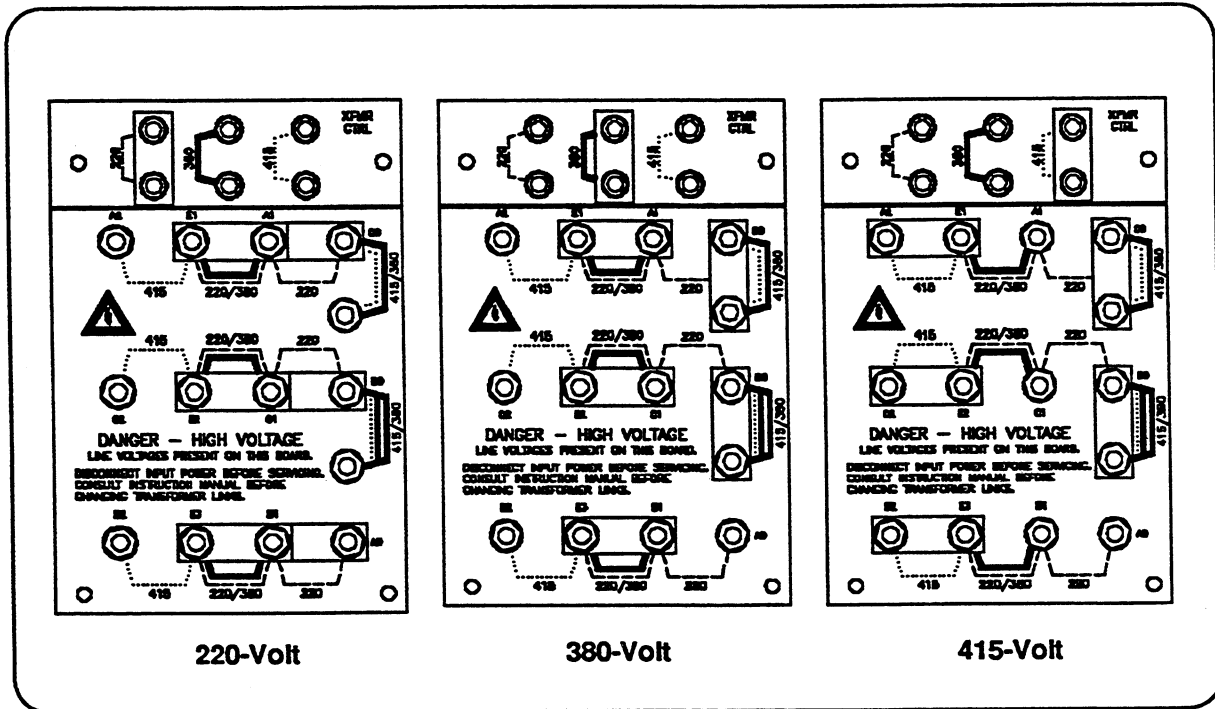

Figure 3-3 220/380/415-Volt Linkboard Configurations
- The 220/380/415-volt, 3PH, 50/60 Hz power supplies (078027) are normally shipped from the factory set up for 380-volt operation, unless otherwise specified. To change the power supply to a different voltage (220 or 415 volts), the links must be moved (see Figure 3-3).